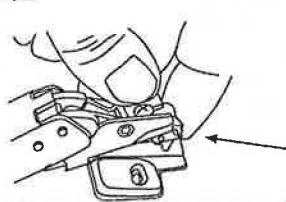

Fig. 1
- 2) Determine desired location of cabinet on wall. Mark wall to show wall opening size (see dimension chart). Generally, the recommended height to the center of the cabinet is 64" from the floor. (Figure 1)